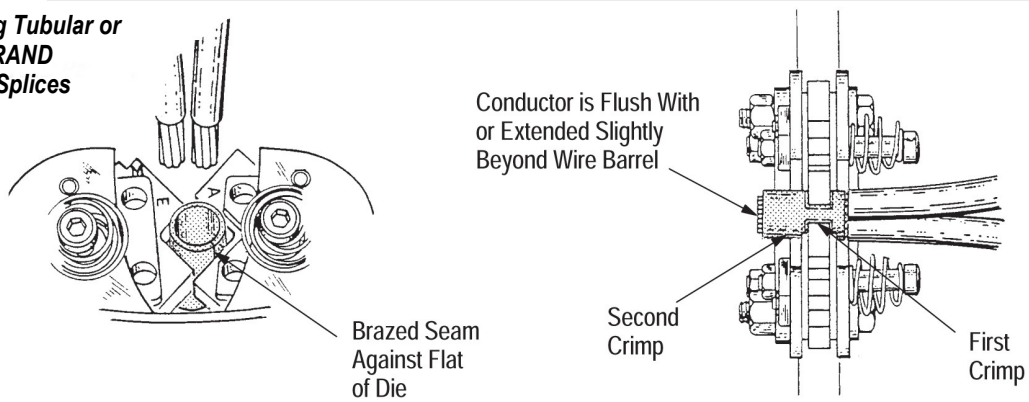

Figure 5
3.4. Performing Dual Crimp on Terminals and Splices With Wire Sizes 2 through 4/0 AWG (Figure 5)
1. Position the end of the terminal or splice wire barrel in the dies as shown in Figure 5.
For best results, position the brazed seam of the SOLISTRAND terminal against one of the "flats" of the dies, as shown in Figure 5. Make sure that the crimps do not overlap or go off either end of the wire barrel.
3.5. Performing Dual Crimp on Butt Splices With Wire Sizes 2 through 4/0 AWG (Figure 5)
For best results, position the brazed seam of the SOLISTRAND butt splice against one of the "flats" of the dies, as shown in Figure 5. Make sure that the crimps do not overlap or go off either end of the wire barrel.
5. Move the butt splice into position for the second crimp, as shown in Figure 5.
1. Position the butt splice for the third crimp, as shown in Figure 5.
5. Move the butt splice into position for the fourth crimp, as shown in Figure 5.
3.6. Performing Dual Crimp on Parallel Splices With Wire Sizes 2 through 4/0 AWG (Figure 5)
NOTE  For best results, position the brazed seam of the SOLISTRAND parallel splice against one of the “flats” of the dies, as shown in Figure 5. Make sure that the crimps do not overlap or go off either end of the wire barrel.